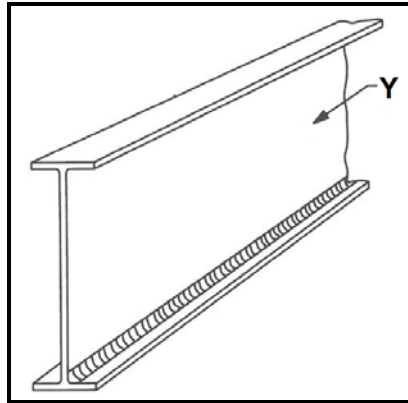

FIGURE 4.1
4.1 FIGURE 4.1 below shows a section of a plate girder. Identify part Y.